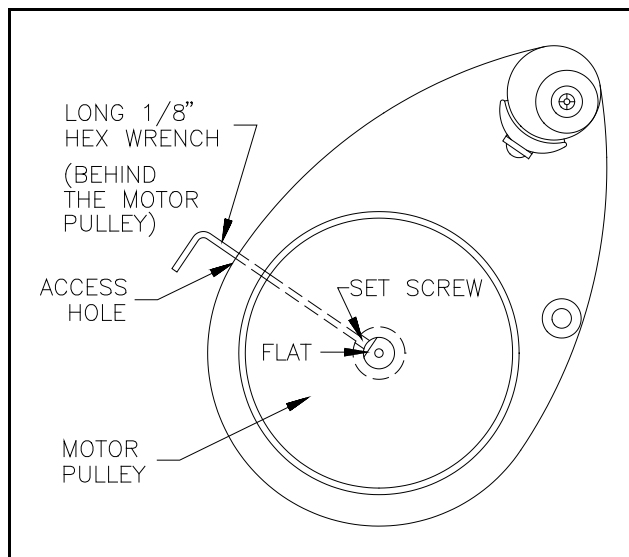

Figure 8. Install the pulley
- 5.2 Loosen the height adjustment handle and rotate the bracket so the Spindle is at the top and to the back. See Figure 8. Tighten the handle.